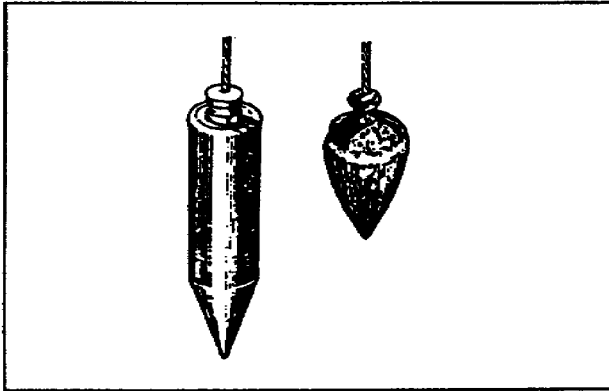

Figure 2-41. Plumb bobs
b. Plumb Bob. A plumb bob is made of metal, usually brass. It usually has a screw-type cap with a hole in the center. A string or plumb line is inserted through the hole and fastened inside. The bottom end has a point in direct line with the hole in the cap (Figure 2-41). The string is absolutely perpendicular to the horizontal when the plumb bob is suspended on it. It can be used for the